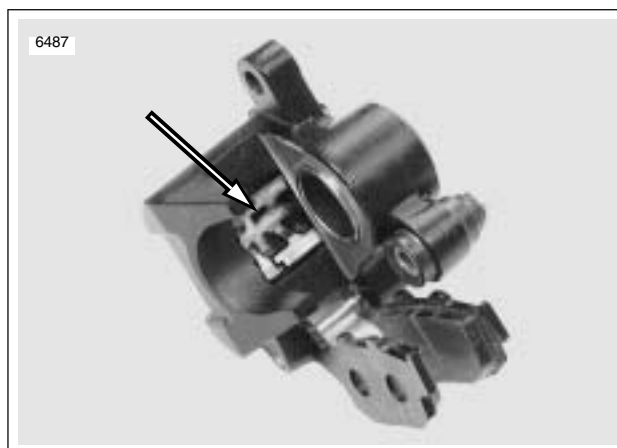

Figure 1-17. Rear Brake Pad Spring
2. See Figure 1-17. Check that pad spring is present. Should pad spring become dislodged, install with widest area of spring towards piston side of caliper.